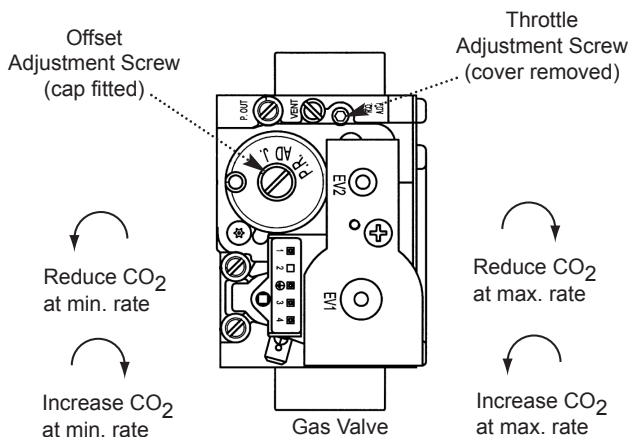

Fig. 55
4. Check the CO2 is 9.3% ±0.1%. If the CO2 is incorrect alter the Throttle Adjustment Screw (Fig. 55). Turn the screw anticlockwise to increase the CO2 or clockwise to decrease (2.5mm hexagon key).
6. Check the CO2 is 8.9% ±0.1%. If the CO2 is incorrect alter the Offset Adjustment Screw (Fig. 55). Turn the screw clockwise to increase the CO2 or anticlockwise to decrease (4mm hexagon key).